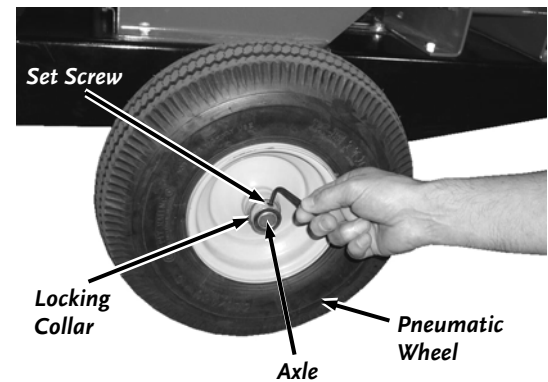

Figure 39
2. Loosen the Set Screw with a 5/32" allen wrench and remove the Locking Collar (**Figure 39**).